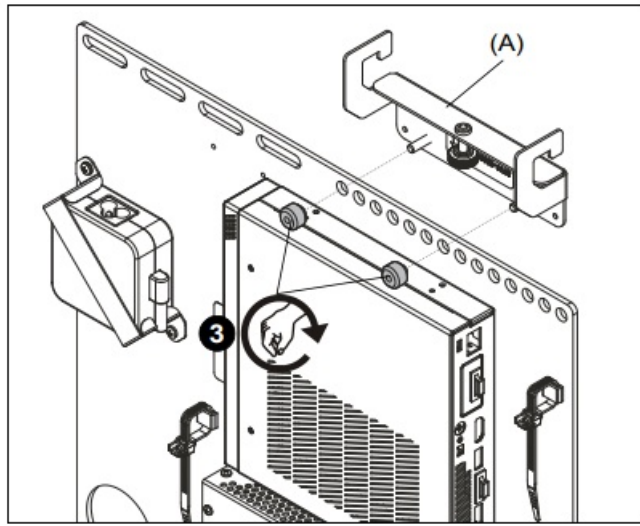

Figure 2
2. Loosen thumb screw until it is almost completely lowered. (See Figure 2)
3. Use removed thumb nuts to attach the flex kit (sold separately) to the flex kit bracket (A). (See Figure 2)